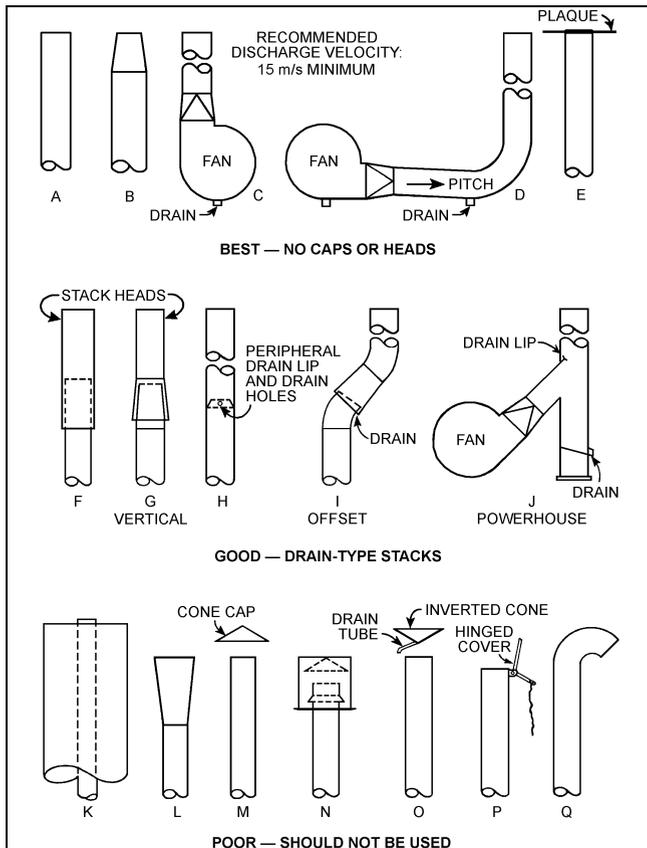

Fig. 2 Stack Designs Providing Vertical Discharge and Rain Protection
p. 34.23, Example 9, 2nd paragraph, 2nd line. Change “Figure 13 in Chapter 16” to read “Figure 2 in Chapter 43 of the 1999 ASHRAE Handbook—HVAC Applications.” Figure 2 is presented here for convenience.